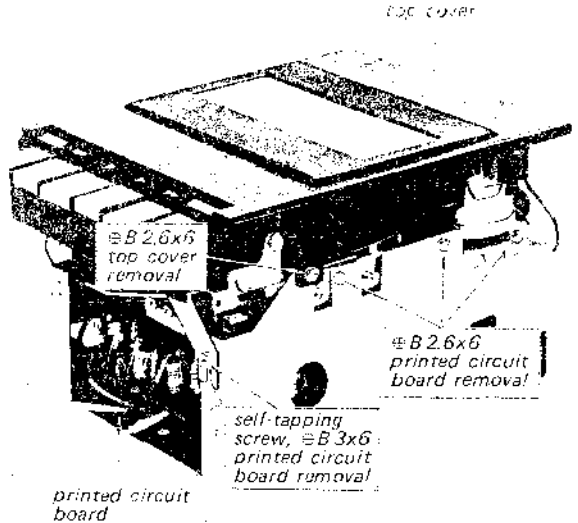

Fig. 2-6. Top cover removal
2. Remove the screw (#B 2.6x6) securing the top cover to the chassis as shown in Fig. 2-6.
2. Remove the three screws ( $\oplus$  B 2.6x6) and the self-tapping screw ( $\oplus$  B 3x6) as shown in Fig. 2-6.